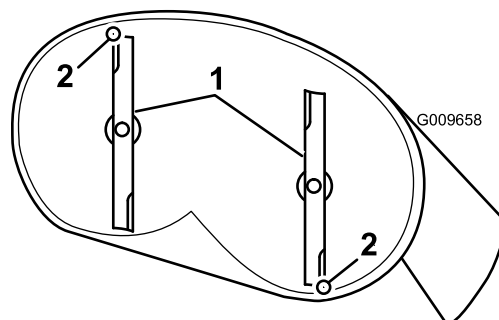

Figure 56
4. Carefully rotate the blade(s) so they are facing front to rear (Figure 56).
5. Measure from the tip of the front blade to the flat surface, and the tip of the rear blade to the flat surface (Figure 56).
9. After adjustment, check the front-to-rear slope again, continue adjusting the nut until the front blade tip is 1.6 to 7.9 mm (1/16 to 5/16 inch) lower than the rear blade tip (Figure 56).